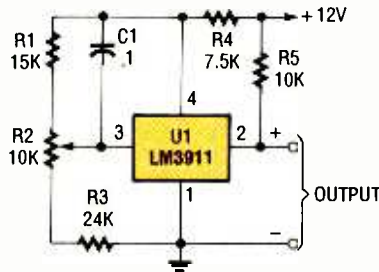

Fig. 3. The LM3911 requires only a few resistors and a capacitor to turn into a full-function temperature controller.
**The Circuit.** The LM3911 requires very few external components to implement a full-function temperature controller. Figure 3 illustrates the simplicity of the Freeze Fighter circuit. The resistor network consisting of R1, R2, and R3 is used to provide the set-point voltage for the feedback input of the LM3911.